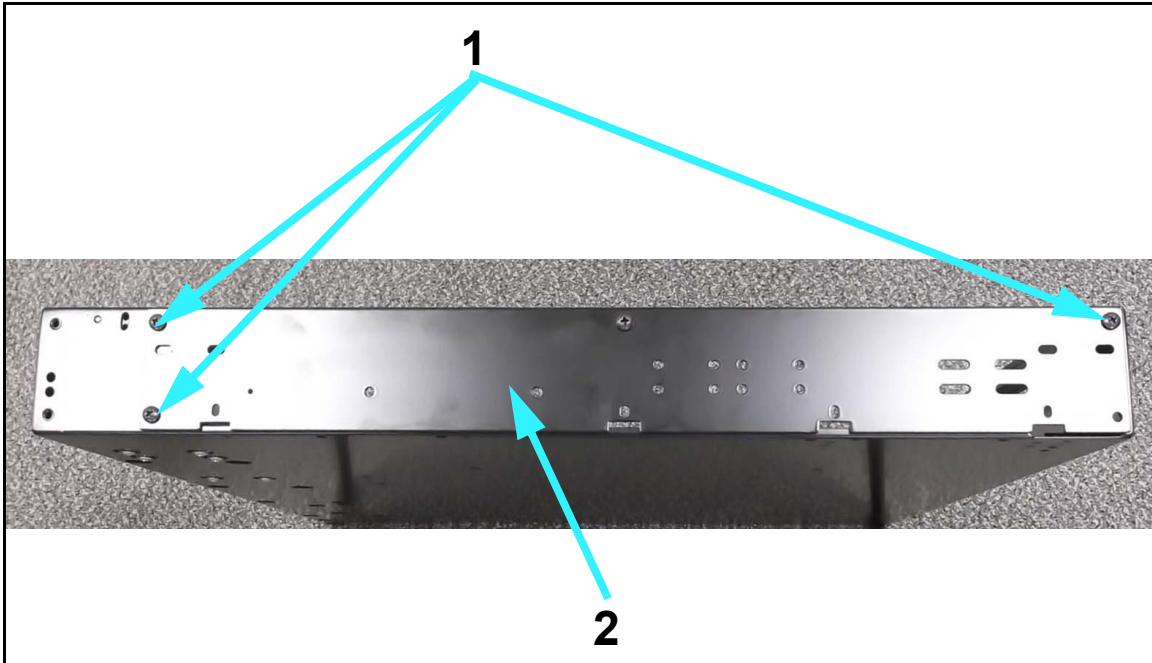

Figure 5-20. Bucky Cover Removal
- 24 Unscrew the bucky cover screws (1 in Figure 5-20) and remove the bucky cover (2).